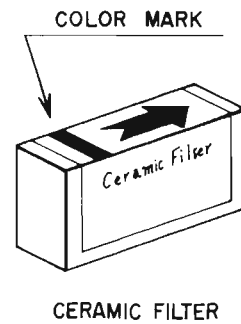

Fig. 18
- 2) Connect Genescope output to point (2) (FM IF input point) and Genescope input to point (9) (AF output point) of FM IF P.C. Board.
- 5) In making this adjustment, the S Curve marker point may vary depending upon the rank of the ceramic filter, but it is satisfactory, if through adjustment a margin of within ±500 Hz can be obtained. (See Fig. 18)